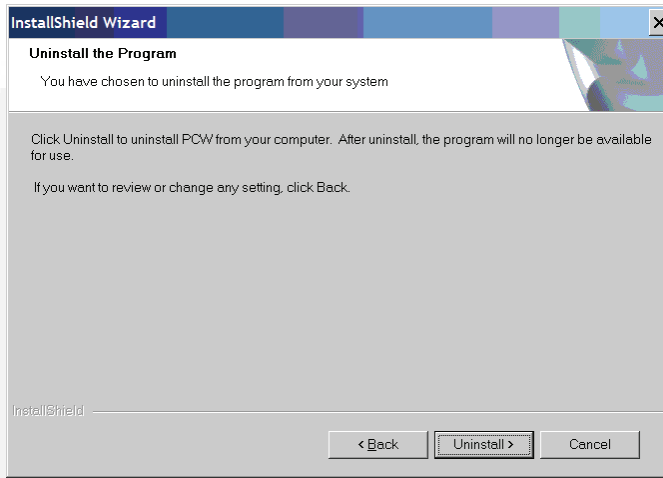

FIGURE A-5. UNINSTALL CONFIRMATION
13. At the *Uninstall the Program* window, click on the **Uninstall** button to continue with the uninstall. Figure A-5.